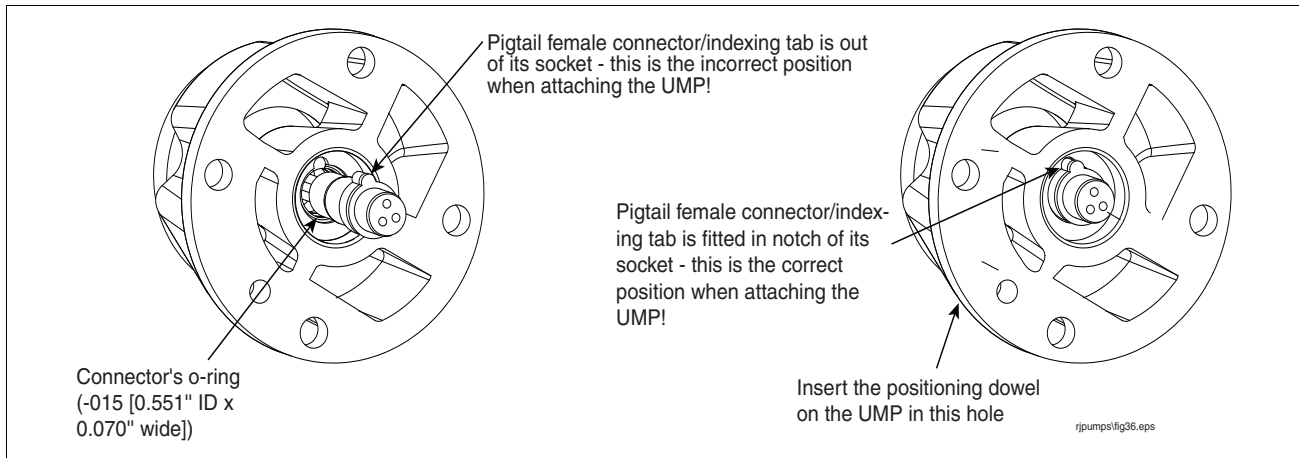

Figure 28. Verifying Pigtail's Female Connector Is Seated Properly
8. Pull the pigtail connector in the discharge head out far enough to see the O-ring in the sidewall of its socket (see Figure 28). Remove the connector's O-ring from the connector's socket and discard it. Get a 0.551" ID x 0.070" wide O-ring from the Hardware/Seal Kit and lubricate it with petroleum jelly. Slide the new O-ring over the pigtail connector and push it in the groove in the wall of the connector's socket. Lubricate the pigtail connector body with petroleum jelly and push it back into its socket, making sure its index tab is in the socket's notch .
10. Align the UMP positioning dowel so it inserts in the proper hole in the discharge head (see Figure 28) and push the UMP into position using hand force only. The UMP should be snug against the discharge head prior to installing the UMP retaining bolts.
11. Push the pigtail wires into the connector's socket until they exit into the packer's wiring compartment. At the discharge (connector) end of the pigtail, rub some petroleum jelly over the connector's outside surface and push it into its socket in the discharge head. Take care to align the connector index tab with the notch in the socket as shown in the drawing on the right in Figure 28 on page 32.
13. Align the UMP positioning dowel so it inserts in the proper hole in the discharge head (again ref. Figure 28 on page 32) and push the UMP into position using hand force only. The UMP should be snug against the discharge head prior to installing the UMP retaining bolts.